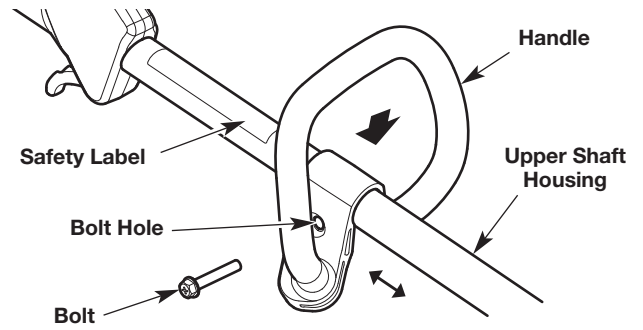

Fig. 8
1. Push the handle down onto the upper shaft housing (Fig. 8). Make sure the bolt hole faces to the right (Fig. 8).
2. Insert the bolt into the bolt hole and push it through (Fig. 8). Tighten the bolt with a flat-head screwdriver, but do not tighten the bolt completely.
3. Hold the unit in the operating position (Fig. 12). Move the handle up or down the upper shaft housing to a comfortable location (Fig. 8). Make sure the handle is positioned beyond the end of the safety label (Fig. 8).
1. Loosen the bolt with a flat-head screwdriver (Fig. 8).
2. Hold the unit in the operating position (Fig. 12). Move the handle up or down the upper shaft housing to a comfortable location (Fig. 8). Make sure the handle is positioned beyond the end of the safety label (Fig. 8).